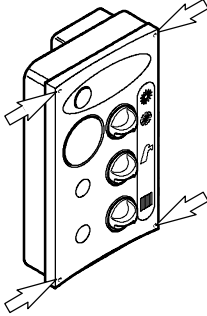

fig. 4.12
- 4 Loosen the screws indicated in fig. 4.12 and remove the cover of the control panel.